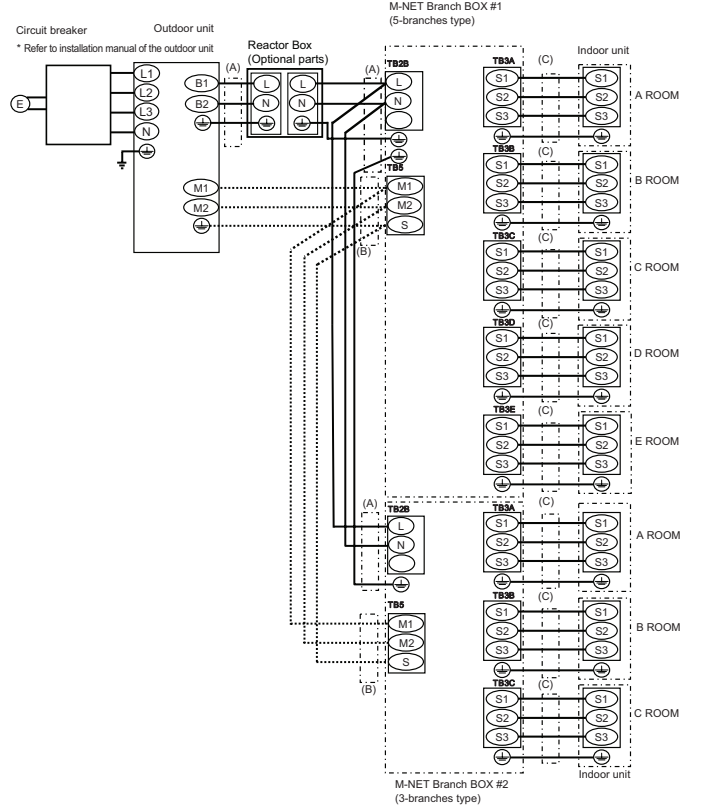
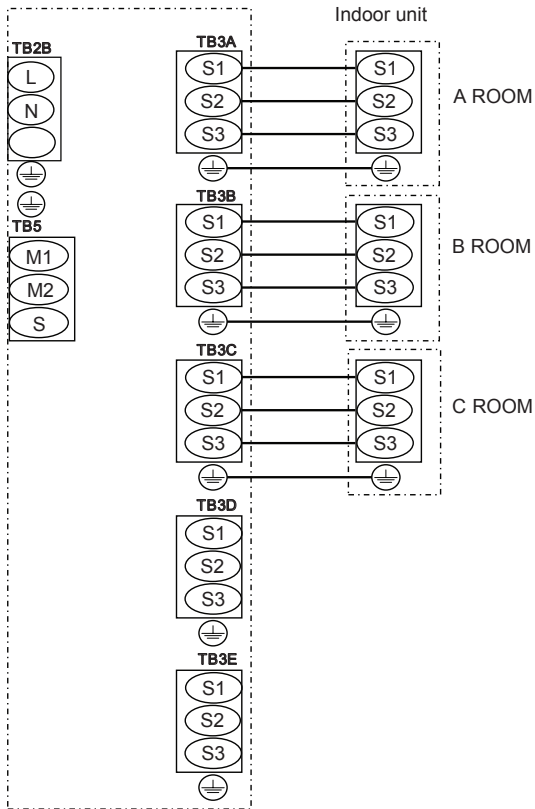

Fig. 8-8
Fig. 8-9
3. Firmly connect each wire to the appropriate terminal block. (Fig. 8-8)
8.2. External wiring procedure (Fig. 8-8, Fig 8-9)